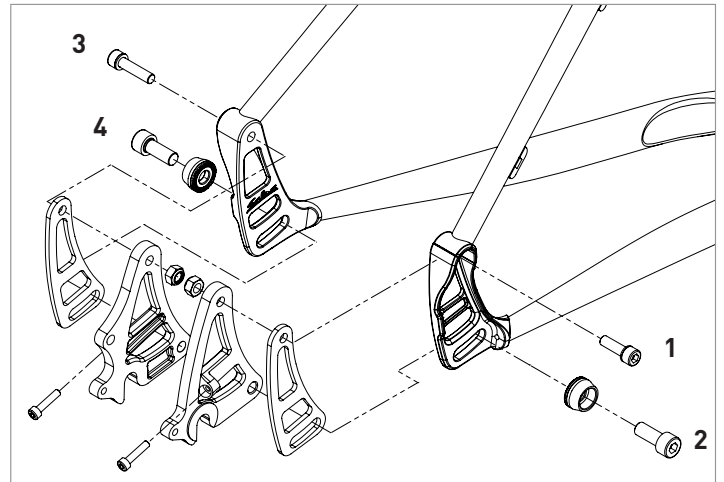

Figure 1
4. Place the Alternator Reduction Plates between the frame's dropouts and the Alternator Dropout (Fig. 1).